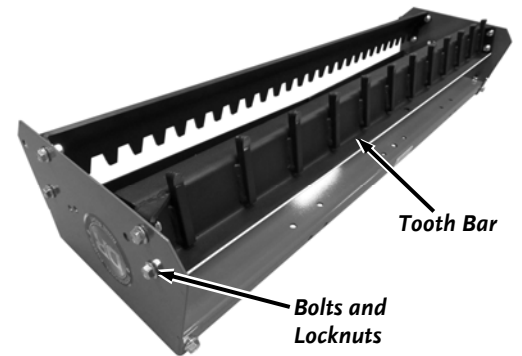

Figure 9
5. Turn the Tooth Bar around so the teeth are facing forward (**Figure 9**). Secure the Tooth bar with the four Bolts and Locknuts but only hand tight for now.